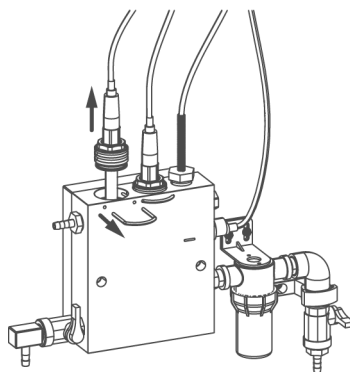

Fig. H-3: pH and redox electrode CPR-tronic 02 family
(see Fig. H-3).
4. Lift the electrode holder with the electrodes out of the flow fitting using a screwdriver (see Fig. H-3).